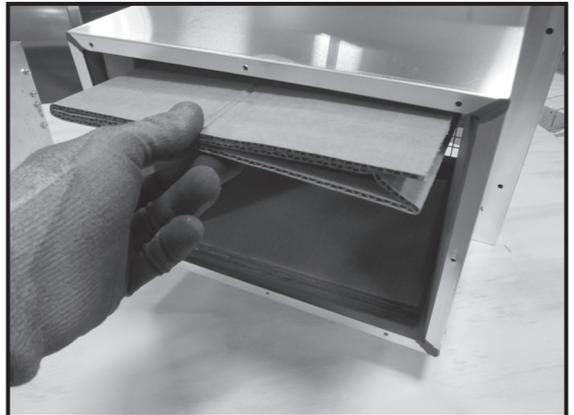

Figure 3.9
3. Remove the four corrugated shipping pads. See Figure 3.9.